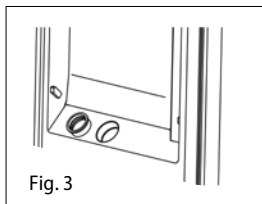

Fig. 3
- When releasing the sealing part in the dispenser, reinsert it. (Fig. 3)